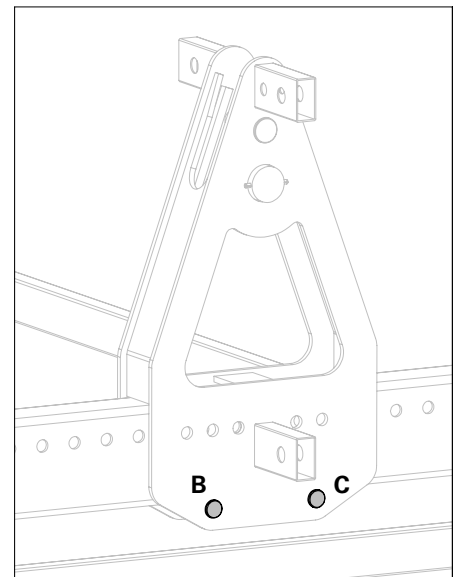

Fig. A11.02b – Floating bearing – not bolted to the Ledger.
3. Secure one Bolt (36c) and Cotter Pin (36d) each in B + C – 2x. → Floating bearing. (Fig. A11.02b)